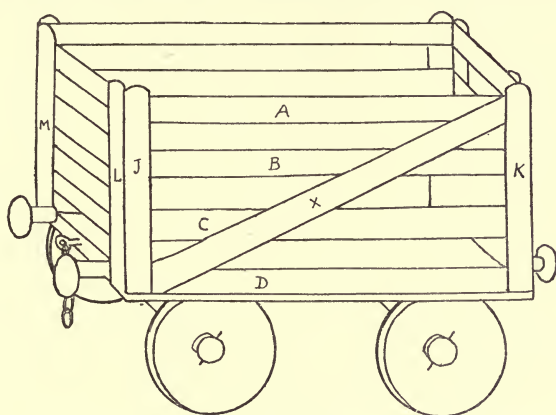
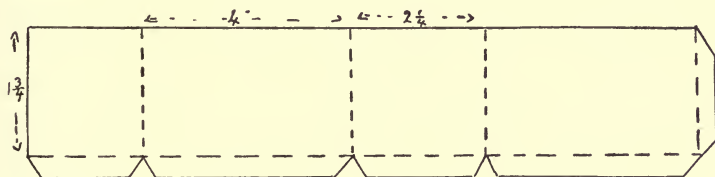

FIG. 234
FIG. 235
(3) *A Cattle Truck* (Fig. 234). The foundation is a piece of wood, 4 inches by $2\frac{1}{4}$ inches. The sides may be cut from one piece
of cardboard (Fig. 235) and coloured to represent bars, as in Fig. 234. It may also be made of wood as follows : Cut eight thin
strips of wood, $4\frac{1}{2}$ inches by $\frac{1}{4}$ inch, A B C D, etc., and eight pieces $1\frac{3}{4}$ inches by $\frac{1}{4}$, J K L M in Fig. 234. The pieces are glued together